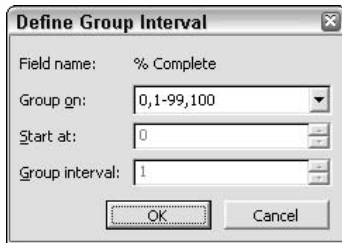

Figure 7-36: Use this dialog box to specify the intervals at which you want Project to group the fields.
12. (Optional) Click the Define Group Intervals button to display the Define Group Interval dialog box, as shown in Figure 7-36. In this dialog box, you can control the grouping intervals that Project uses. Click OK when you finish to redisplay the Group Definition dialog box.